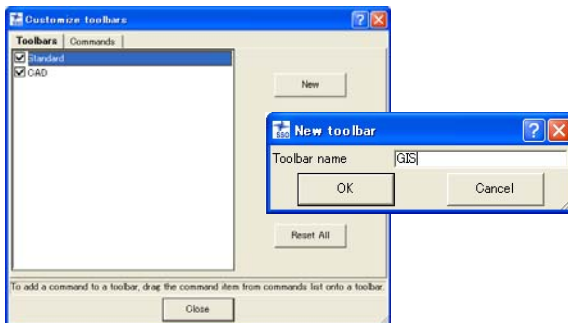

Figure 1-25. Add New Toolbar
2. Click **New** to add a new toolbar to the main window. Name the toolbar and click **OK** (Figure 1-25 on page 1-30).